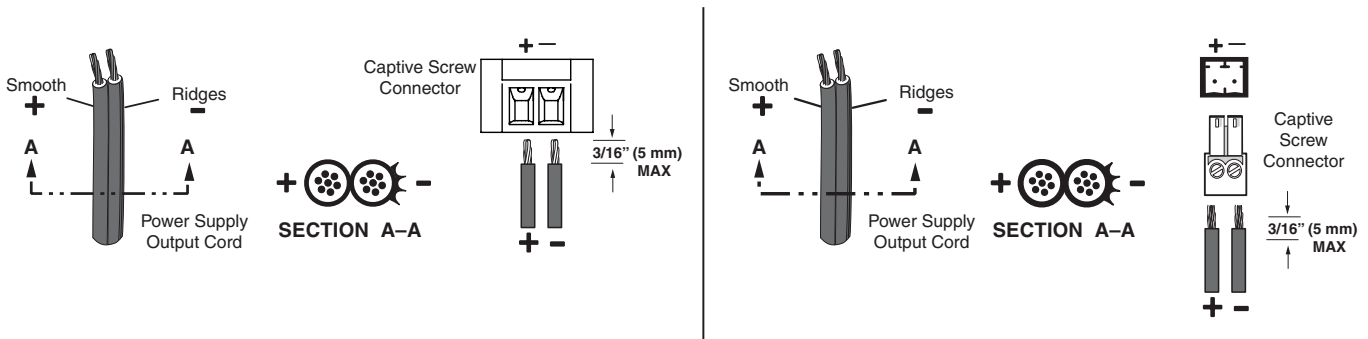
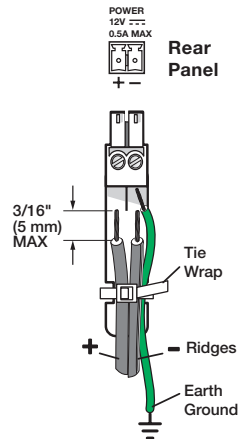

Figure 12. Power Connector Wiring for the MTP T 15HD WM and AAP (Left), and the MTP T 15HD A D (Right)
Figure 13. Power Connector Wiring and Grounding
- ⑥ **Power connector** — Connect the cables from the included external 12 VDC power supply to the rear panel 3.5 mm, 2-pole captive screw connector (see figures 12 and 13 below and on the next page for wiring and grounding instructions).
Figure 12 shows how to wire the power connector. Figure 13 shows how to ground the unit through the power connector.
Extron twisted pair products can be adversely affected by electrostatic discharge (ESD) if they are not grounded correctly. To prevent malfunctions or product damage, an installer can correctly ground an Extron twisted pair product by following the diagram in figure 13 on the next page.